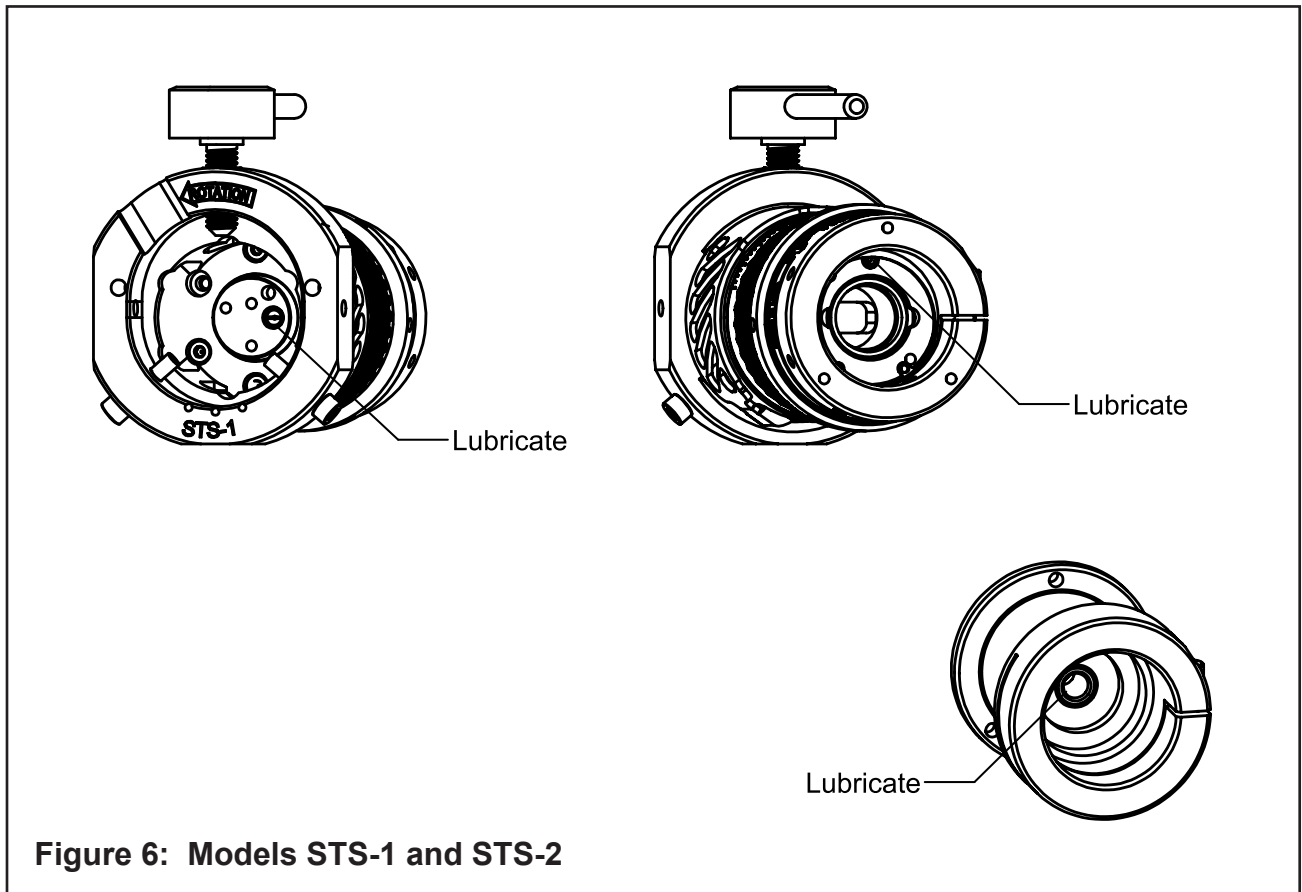

Figure 6: Models STS-1 and STS-2
- Lubricate bearings with a high string utility grease (P/N 68-0024). Refer to Fig 6. (For the Model STS-2, lubricate the gearbox at the point where the splined shaft enters the gearbox).